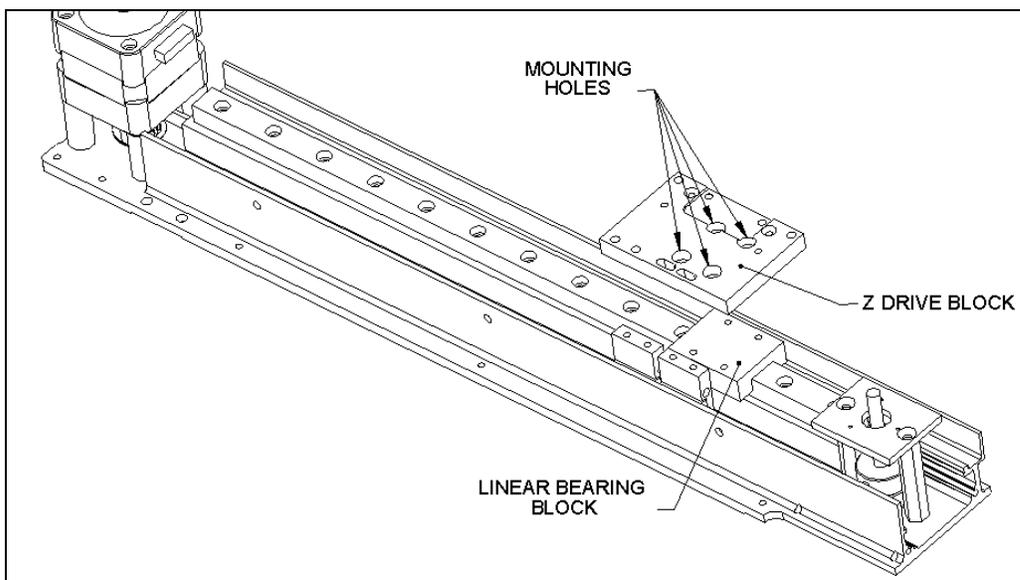
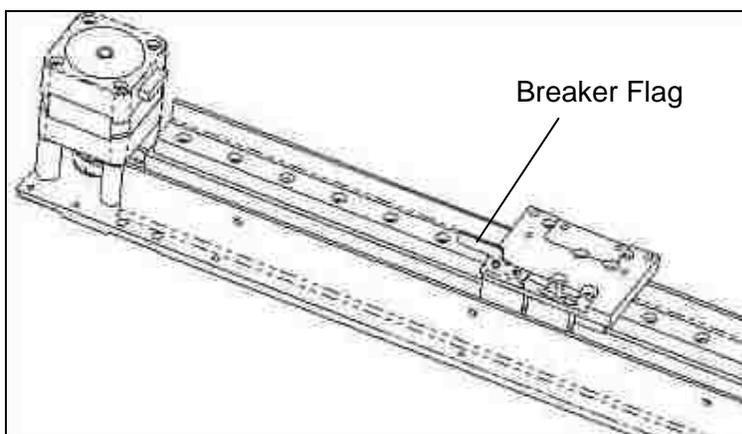

Figure 7-21 Removing the Z-Drive Block
Figure 7-22 Location of the Z Sensor Breaker Flag
- 1 Remove the Z-Drive Block Assembly from the Linear Bearing Block by unscrewing the four M3 x 6 Cap Head Screws (Figure 7-21). The Z Sensor Breaker Flag is attached to the Z-Drive Block Assembly and should also be removed (Figure 7-22).